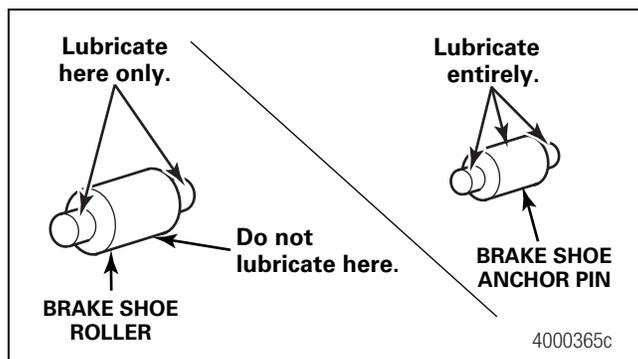

Figure 3.17
1. Use Meritor specification O-617-A or O-617-B grease to lubricate the brake shoe roller and anchor pin. Figure 3.17.